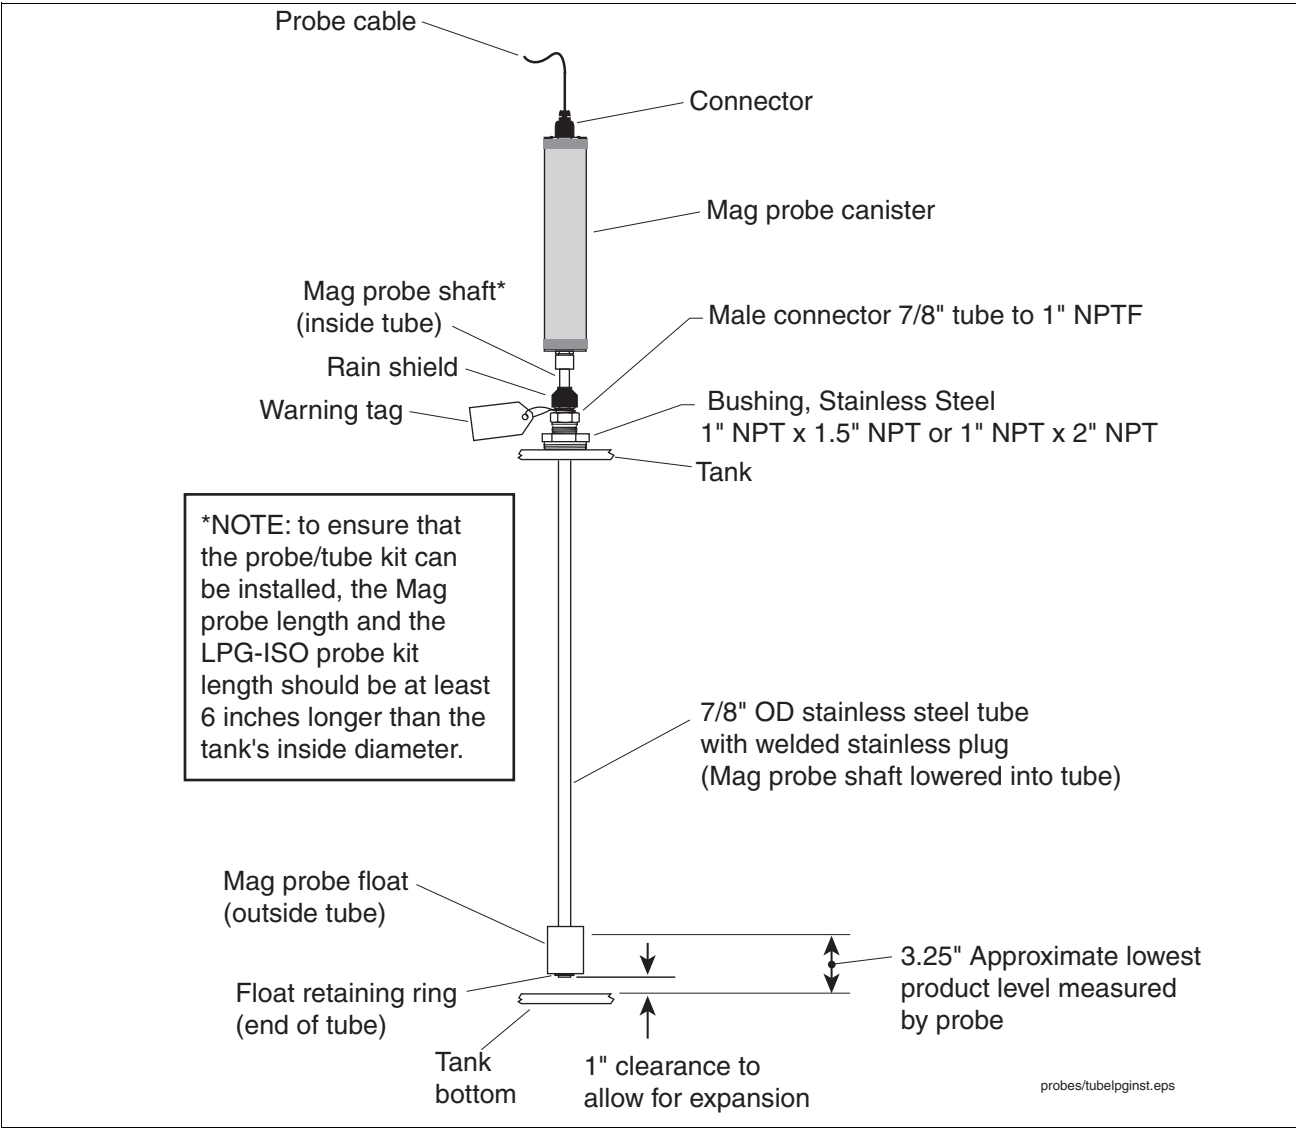

Figure 28. Media Isolated Mag Plus Probe Installation Example
Slide the large shipping washer off of the stainless steel tube and discard it. Carefully slide the float, non-magnet end first, onto the tube and down against the retaining ring at the bottom of the tube. The float must be installed magnet-end up to measure fuel correctly (see Figure 28).
With the float against the retaining ring, carefully lift the open end of the tube up and lower the assembly, float end first, into the tank until the tube rests on the bottom of the tank (Figure 28). Carefully slide the 1" x 1-1/2" stainless steel bushing, 1-1/2" end first, down over the tube until it rests against the tank opening. Apply UL classified sealant suitable for use with LPG to the outside bushing threads that will be screwed into the tank fitting. Screw the bushing into the tank fitting. Tighten the bushing as required to ensure a proper seal.
2. Attach the warning tag as shown in Figure 28. Attach the probe cable connector to the mating plug on the top of the probe canister. Hand tighten the connector securely.